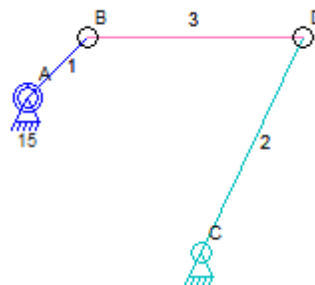

Figure 9. Finished Tutorial Mechanism
10. Figure 9 shows the finished mechanism. Click on the **Run** button in the tool bar and the mechanism will be animated in the window. Link 1 will rotate clockwise around anchor A and link 2 will move back and forth.